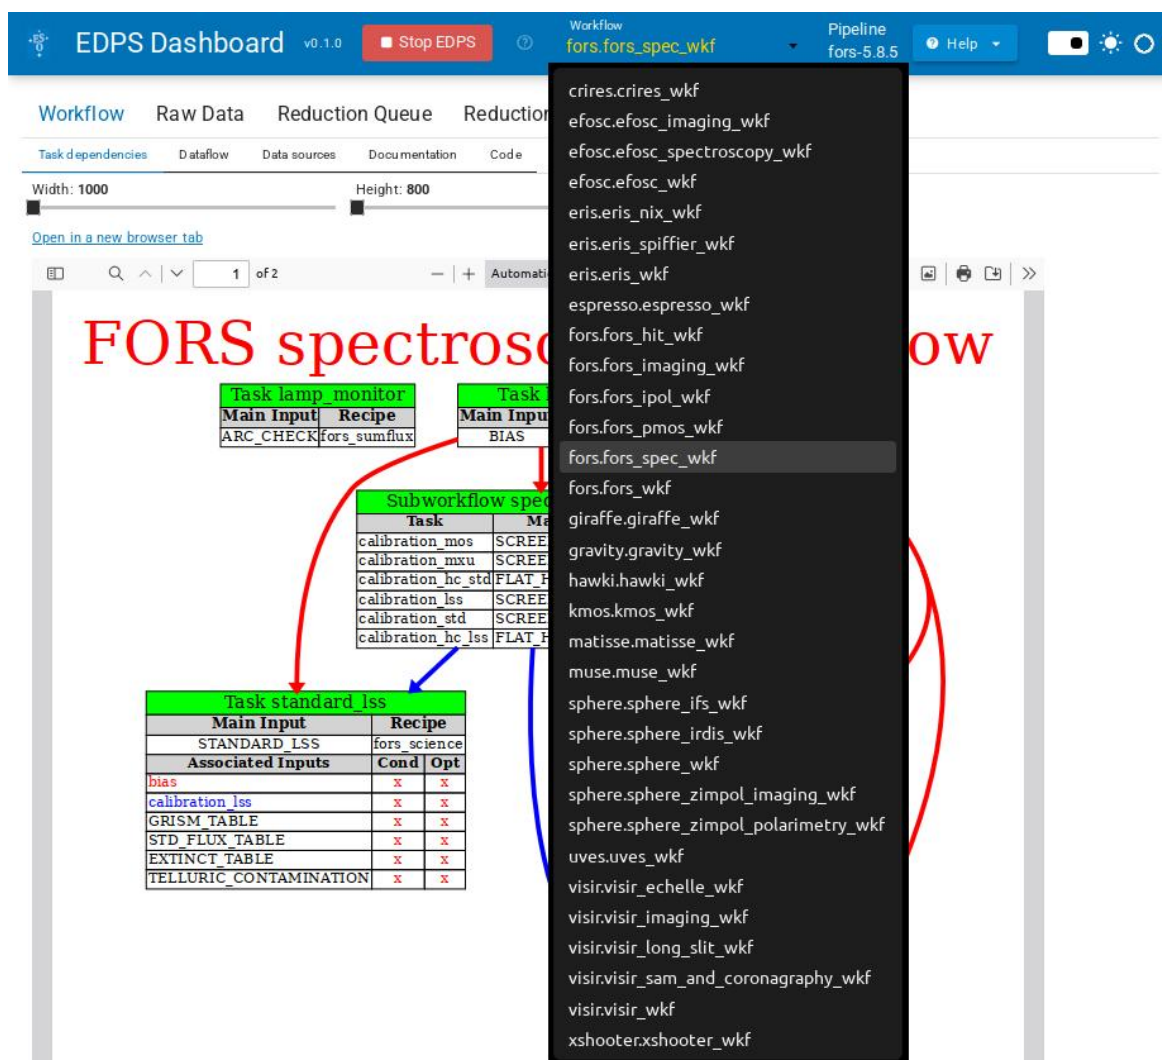

Figure 4: The `edps-gui` with the FORS SPECTROSCOPY workflow loaded.
5. Choose the `fors.fors_spec_wkf` workflow from the list in the ‘Workflow’ field. The workflows offered in this selector depend on the installed pipelines. The graphic workflow representation will appear as in Figure 4.